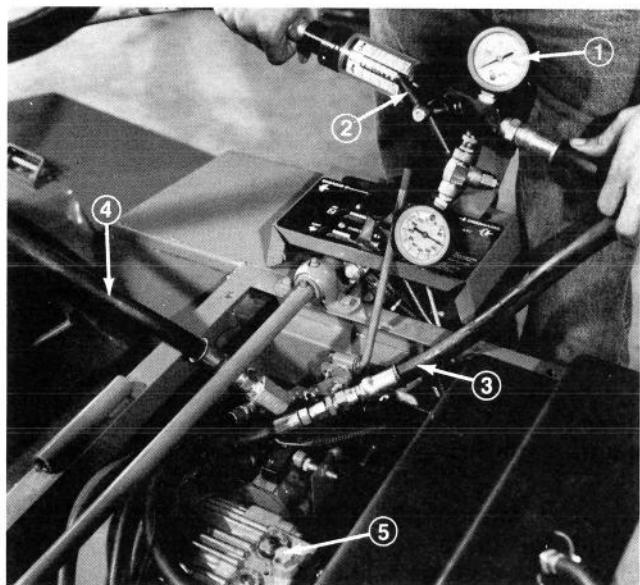

Figure 74
1. Remove hydraulic oil filter from mounting head (Fig. 74). Dispose of the filter properly.
3. Remove seat, seat support cover and seat support and remove line from top of pump housing to lift valve fitting (Fig. 74).
4. Install hydraulic inlet hose of test gauge into line from transmission and test gauge return line into lift valve fitting (Fig. 74).
7. Increase engine speed to 3200 rpm - full throttle and watch flow and pressure gauges. Slowly close load valve until flow gauge reads one (1) GPM (0.063 L/s). Pressure reading at one (1) GPM (0.063 L/s) should not be lower than 500 psi (3447.5 kPa). If one (1) GPM or a minimum of 500 psi (3447.5 kPa) cannot be achieved, remove implement relief valve and examine for contamination or broken parts (Fig. 74). If no contamination or damage is evident, add one shim to assembly and repeat test.
Apply a liberal amount of No. 2 General Purpose Lithium Base Grease to the two by-pass valve pins located on top of the transmission to prevent corrosion build-up which could lock the pins into the by-pass position and cause internal transmission failure (Fig. 74).